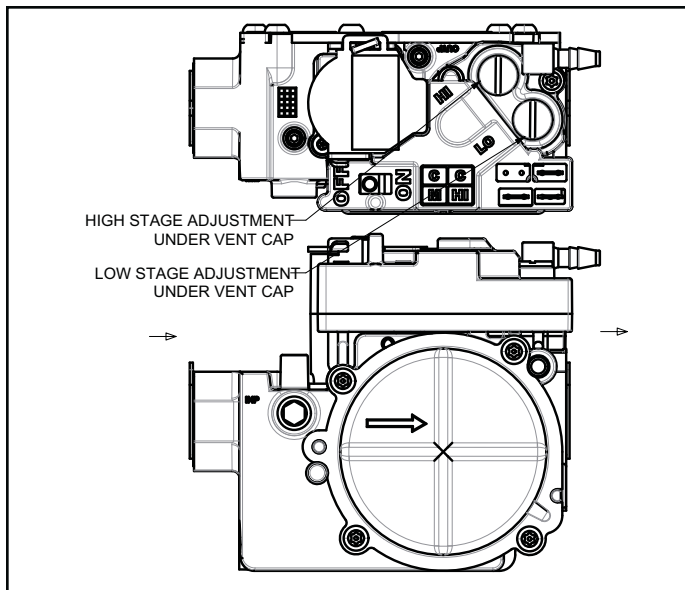

Figure 6. Gas Valve
3. Slide the gas valve switch to the "ON" position (see Figure 6).
2. Slide the gas valve switch to the "OFF" position (see Figure 6).
pressure and input. See Figure 6 to assist in locating the regulator on the gas valve.
1. Slide the gas valve switch to the "OFF" position (see Figure 6).
4. Slide the gas valve switch to the "ON" position and initiate a call for heat. If manifold pressure must be adjusted, the gas valve has separate adjusting screws for first stage (LO) and second stage (HI) (see Figure 6). Turn the adjusting screws clockwise to increase pressure and input; turn counterclockwise to decrease